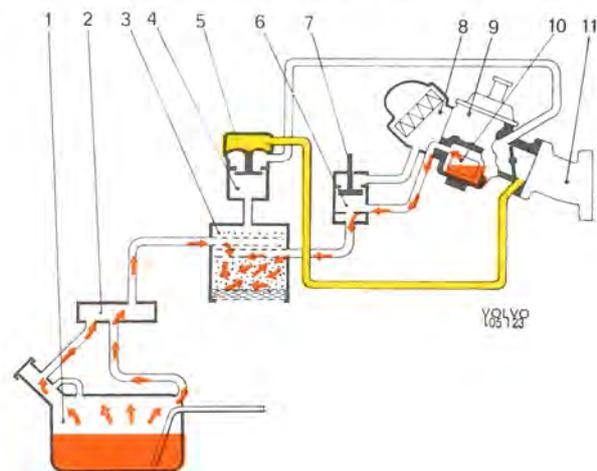
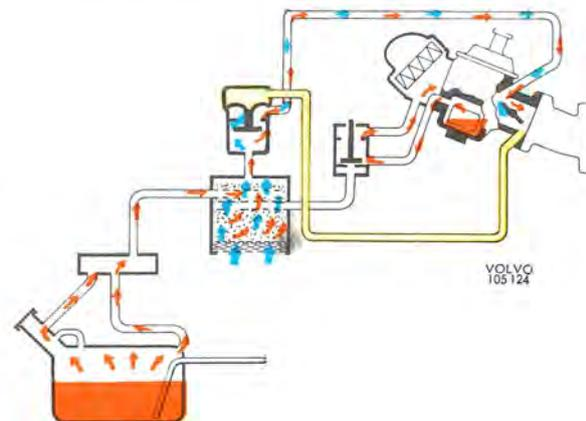

Fig. 2-60. Evaporative control system with control rod (7) at idle
Fig. 2-61. Evaporative control system with control rod at running
Vehicles for the USA market are fitted with an evaporative control system which prevents fuel fumes from being released out into the atmosphere. Its function is outlined in Fig. 2-60.
Fuel fumes from the floatchamber (10, Fig 2-60) are led via the valve (6) to the venting filter when the engine has been switched on or during idling. Throttling shuts off the connection between the venting filter and the float chamber so that the fumes travel via the valve to the air cleaner (Fig. 2-61).
throttle facing the induction manifold, see Fig. 2-60. The vacuum in the induction manifold depends on the engine load and speed.
At high vacuum, the vacuum valve is kept closed (Fig. 2-60). When the vacuum drops the valve opens and air is drawn through the venting filter and vacuum valve to the carburettor venturi. Fuel fumes stored in
the venting filter follow the air into the engine and take part in the combustion (Fig. 2-61).